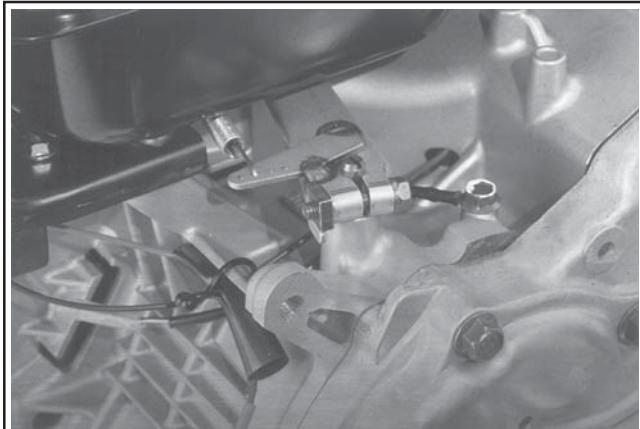

Figure 11-85. CS8.5-12. Ground Lead Location.
**CS8.5-12:** Reattach the ignition system ground lead to the crankcase boss adjacent to the governor shaft (See Figure 11-85), or to the control module mounting bolt location based on model involved.